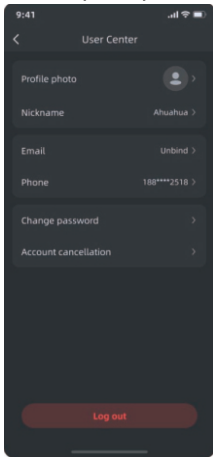

Figure 1
1) Figure 1: The following information is displayed in sequence from top to bottom: